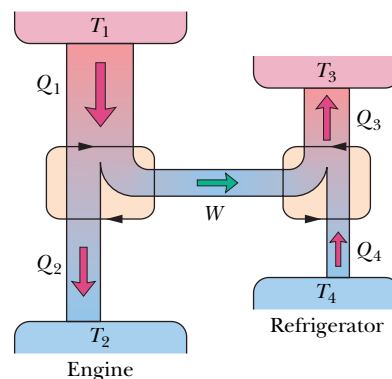

Fig. 20-32 Problem 43.
**••43 GO** Figure 20-32 represents a Carnot engine that works between temperatures  $T_1 = 400$  K and  $T_2 = 150$  K and drives a